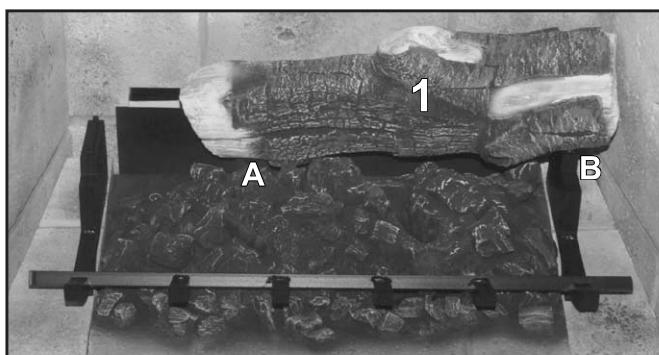

Figure 75: Log 1 in Place.
1. Install Right Rear Log. The right side sits on the grate with the groove on the bottom of the log fitting onto the top of the grate (see Figure 75). Insert the log pin into the top of the ember burner (see A in Figure 75). Align the log front edge with the front section of the grate (see B in Figure 75).
Insert the log pin into the top of the ember burner (see A in Figure 75). Align the log front edge with the front section of the grate (see B in Figure 75).